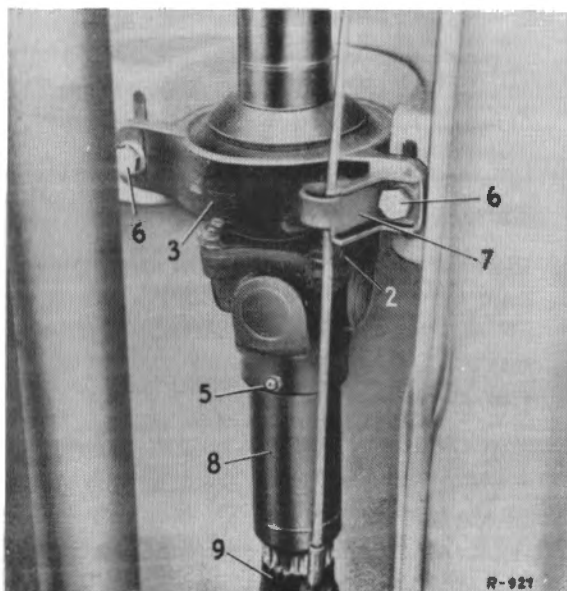

Fig. 00-1/5
14. Mark the position of the bearing bracket for the propeller shaft intermediate bearing on the chassis base panel. Then screw out the two fixing screws (6) together with washers (Fig. 00-1/5).